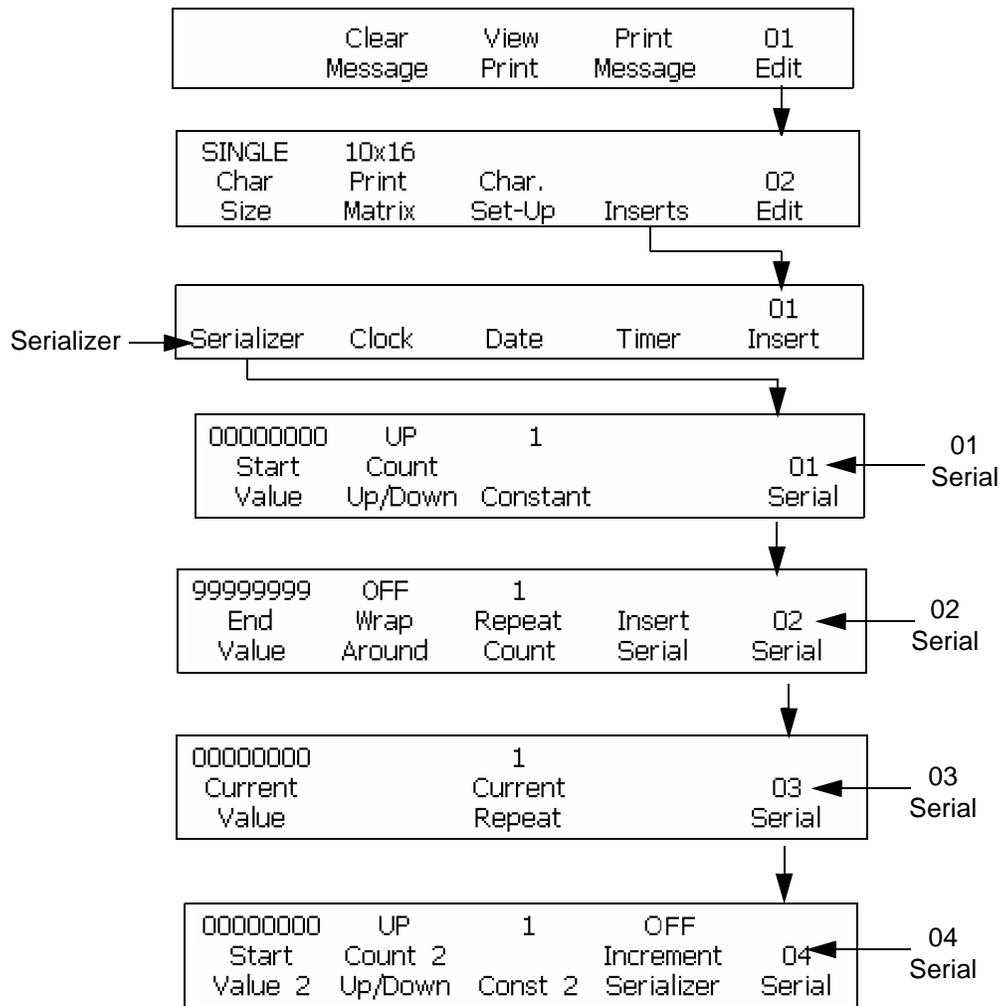

Figure 6-39: Accessing Frame <01 Serial>
- 1 Begin in the Frame <01 Serial>. Refer to Figure 6-39 on page 6-52.
- 10 Press F5 to go to Frame <02 Serial>. Refer to Figure 6-39.